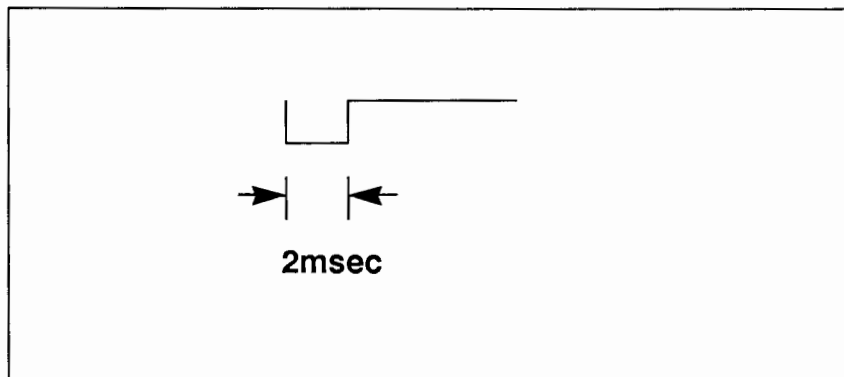

Figure 6-11. Paper Feed Speed Check
3. Loosen the sensor mounting plate screws (See Figure 6-8), and move the assembly to obtain the waveform shown in Figure 6-11. Double check the speed using the internal LED adjustments discussed in the "Paper Feed Strobe Set-Up and Adjustments" section.